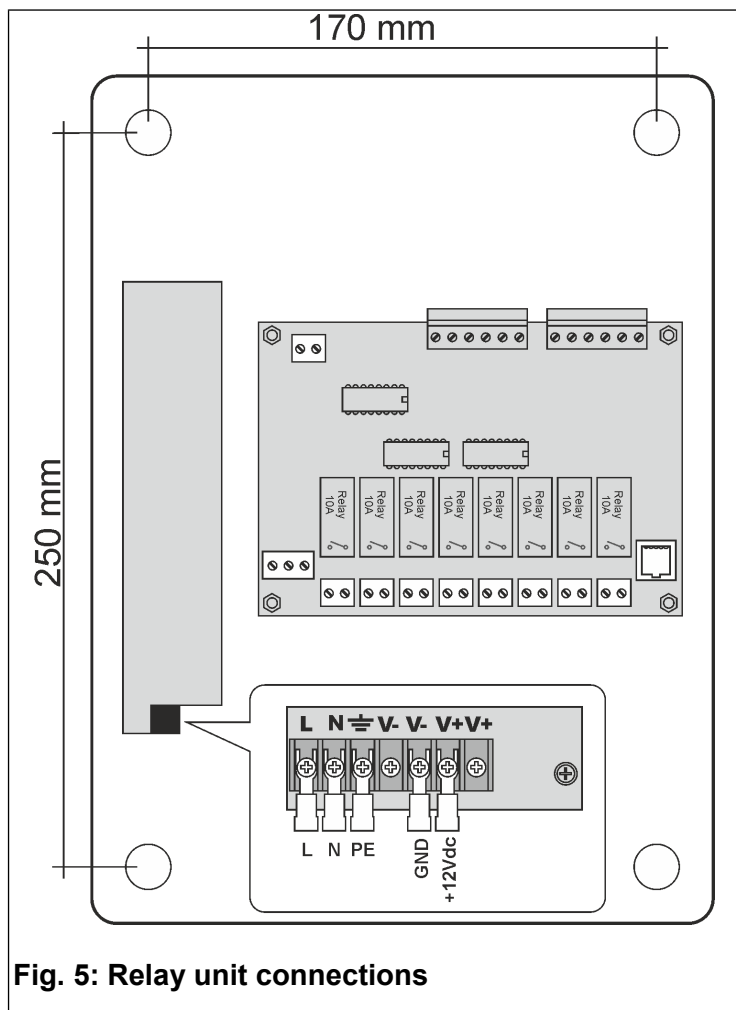

Fig. 5: Relay unit connections
- Fasten the relay unit via the 4 holes at the bottom (Fig. 5).
Connect the grounding conductor to the appropriate fork terminal provided, as indicated in Fig. 5.